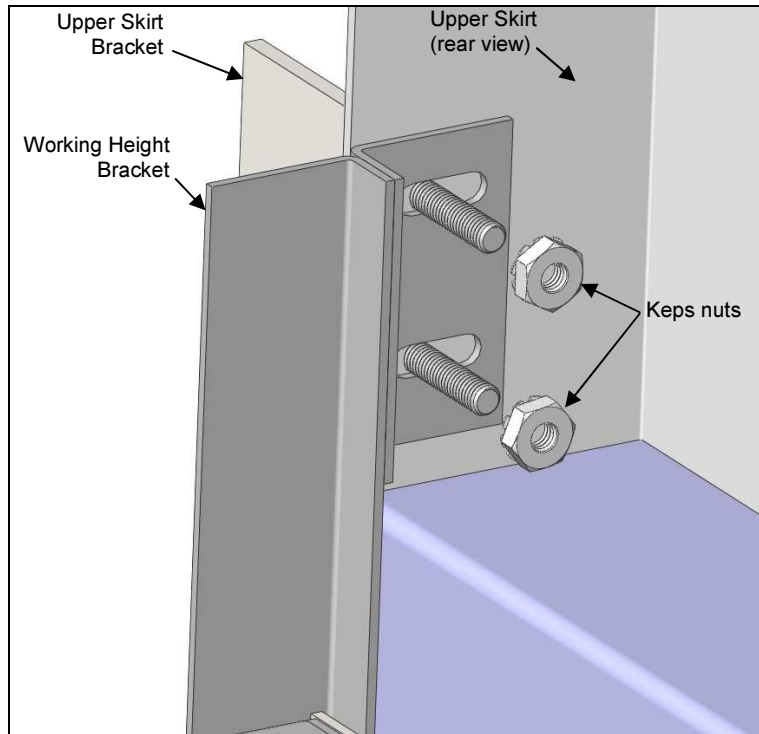

Figure 10: Rear view of mounting procedure
4. Install the working height bracket on the left side of the upper skirt using the existing screws for the upper skirt bracket and the included keps nuts. The working height bracket will sit flush with the inside surface of the upper skirt as shown in Figure 10.